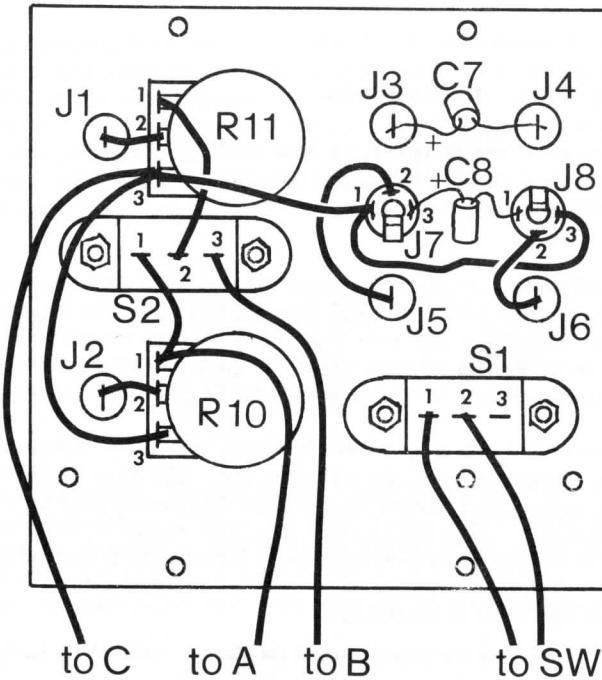
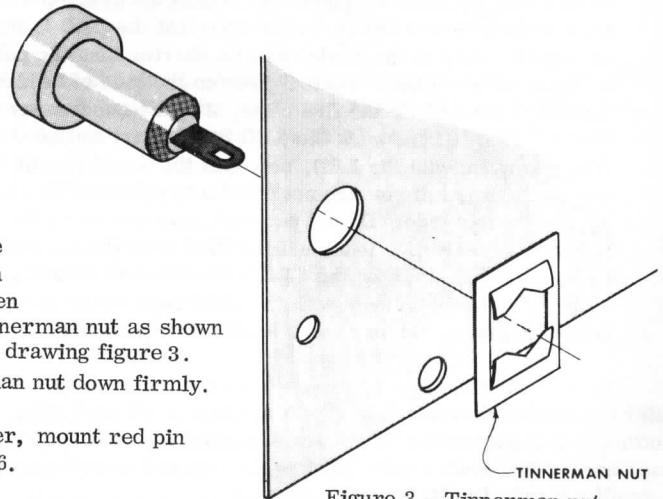

Figure 2 - Front panel parts installation & wiring diagram
Figure 3 - Tinnerman nut mounting detail
- () Place a red pin jack J1 in the hole provided as shown in figure 2. Fasten in place with a tinnerman nut as shown as shown in detail drawing figure 3. Press the tinnerman nut down firmly.
- () Mount the closed circuit mini-phone jack, J7, on the front panel in the position shown in figure 2. Orient the jack as illustrated and fasten in place with the nut provided.
- () Mount one of the 5K potentiometers, R10, in the position shown in figure 2. Use two of the 3/8 inch nuts provided, one behone the panel as a spacer and
the second one in front of the panel to hold the control in place. Adjust the rear nut so that none of the threaded shaft is exposed when the front nut is tightened down. This will allow the control knob, which will be mounted in a later step to be seated as close to the front panel as possible. Orient the control as shown in figure 2.
- () In a similar manner, mount the remaining 5K potentiometer, R11, as shown in figure 2.
- () Using two #4-40 X 1/4 inch machine screws, two #4-40 nuts, and two #4 lockwashers, mount slide switch S1 as shown in figure 2.
- () a 2 inch (5 cm) length from lug 1 of R11 to lug 2 of S2. Solder both connections. See figure 2.